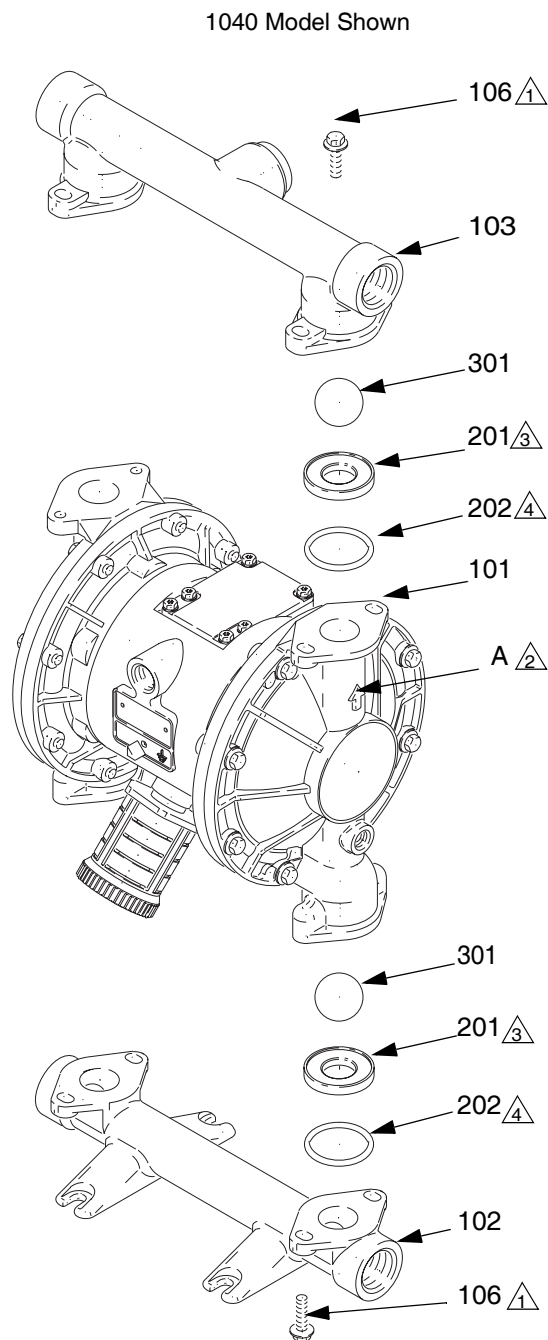

FIG. 1
3. Remove the bolts (106) holding the outlet manifold (103) to the fluid covers (101). See FIG. 1.
4. Remove the o-rings (202, not used on some models), seats (201), and balls (301) from manifold (103).
5. Turn the pump over and remove the inlet manifold (102). Remove the o-rings (202, not used on some models), seats (201), and balls (301) from fluid covers (101).
- ⚠ 2 Arrow (A) must point toward outlet manifold (103).
- ⚠ 3 Beveled seating surface must face the ball (301).
1. Reassemble in reverse order, following all notes in FIG. 1.
2. If o-rings (202) are used, replace with new ones to assure the pump will seal properly. Be sure the ball checks and manifolds are assembled exactly as shown. The arrows (A) on the fluid covers(101) must point toward the outlet manifold (103).